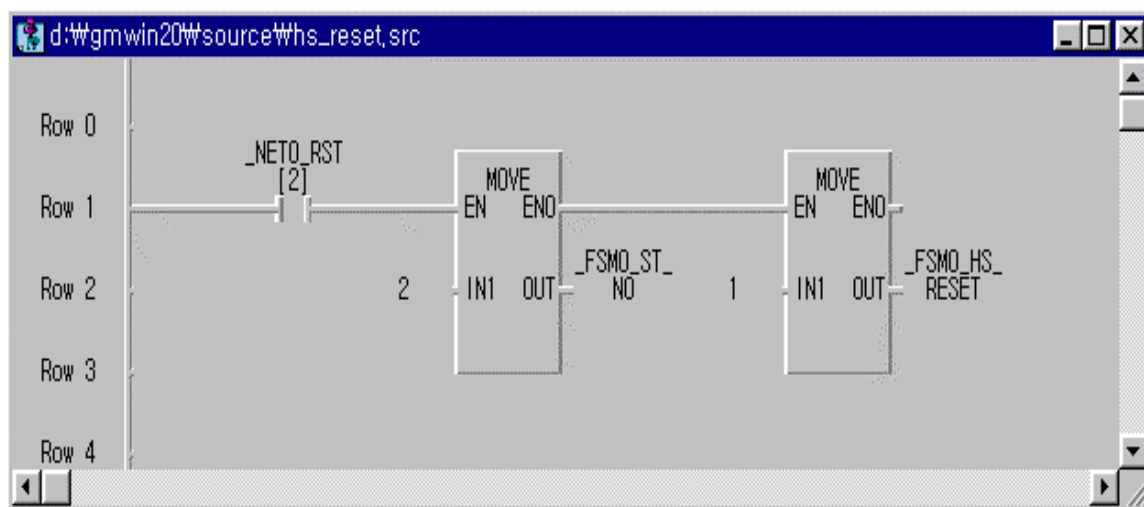

Fig. 6.6.5(A) Ex. of program using _FSMx_HS_RESET
Fig. 6.6.5(A) is an example of program that recovers *high speed link* flag to normal state when remote I/O station is recovered after power failure. In the figure, `_NET0_RST[2]` is a flag that is set to 'On' when power of station 2 becomes down and recovered during performing communication between communication module mounted in slot 0 and station 2 of other station(remote station). If power becomes down and recovered in remote station, `_HS_MODE` is set to 'Off' and link-trouble maintains 'On'. To clear this information, enter appropriate remote station into `_FSM0_ST_NO`, and set `_FSM0_HS_RESET` FLAG to 'On'. Then, `_HS_MODE` is set to '1' and link-trouble is set to 'Off'. If link-trouble maintains '1' after recovering power failure, this means that remote I/O has error, so user can handle it according to system configuration.